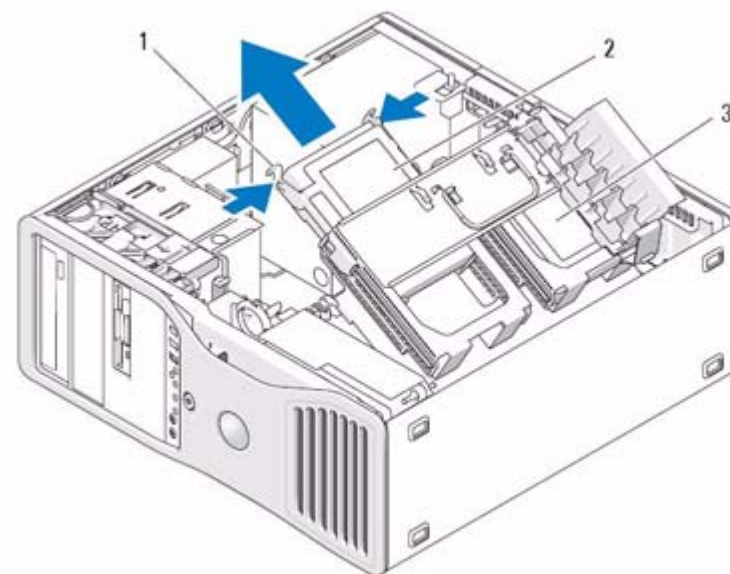

Figure 13:
7. Press the blue tabs on each side of the Hard Disk bracket toward each other and slide the drive up and out of the hard-drive bay as shown in Figure 13 on page 19.